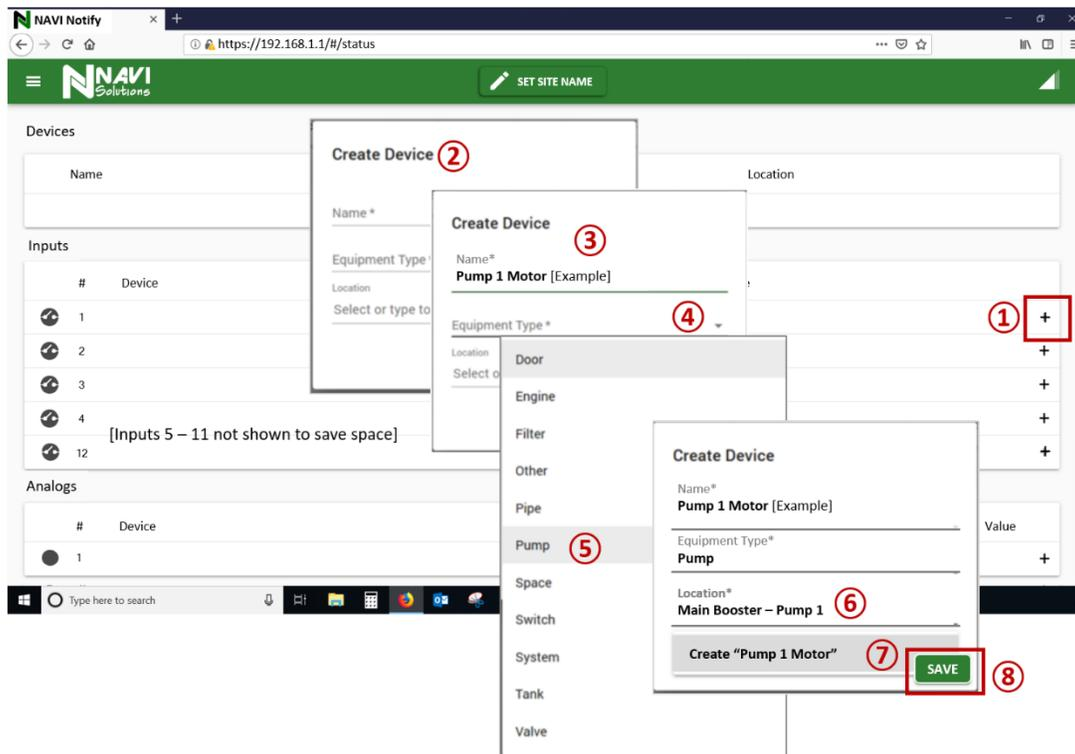

Figure 6
- ① Click on the Add Input [+] symbol at the right of the desired Input [Figure 6]. This is usually Input 1 but will depend on which Input your initial sensor was connected.
- ② The Create Device window will open.
- ③ Enter the name of the Device [Group of Inputs. In this example “Pump 1 Motor”].
- ④ Click the drop-down menu and select the appropriate Equipment Type ⑤.
- ⑥ Enter a Location for the Device [to what & where the Device’s sensors are connected].
- ⑦ Click “Create [Device Name] and ⑧ [SAVE]. The created Device will be presented in the Device List.